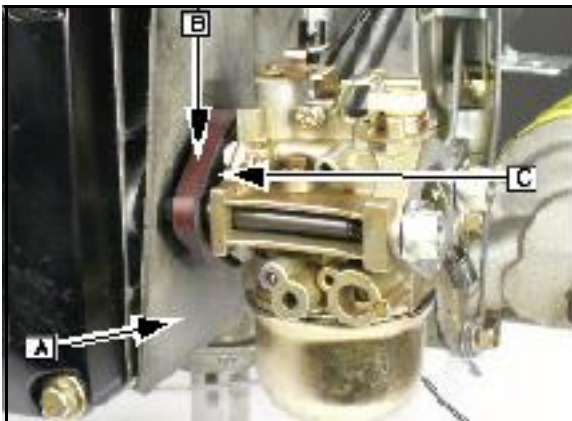

Fig. 13
2. Place the large gasket (A), spacer (B) and carburetor gasket (C) as shown in (Fig.13).